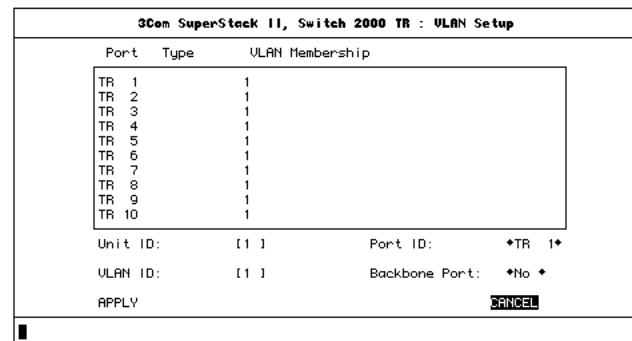

Figure 4-10 VLAN Setup Screen
- 3 Choose the SETUP button. The VLAN Setup screen appears as shown in Figure 4-10.